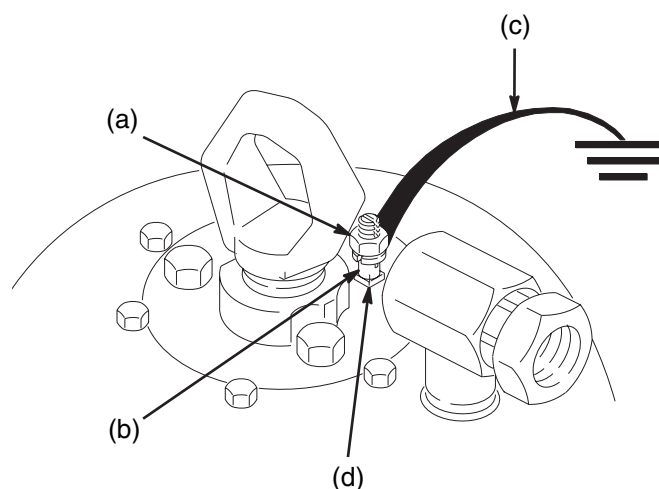

FIG. 1
- **Pump:** (FIG. 1) Use ground wire and clamp (supplied). Loosen grounding lug locknut (a) and washer (b). Insert one end of ground wire (c) into the slot in the lug (d). Tighten locknut securely. Connect other end of wire to a true earth ground.